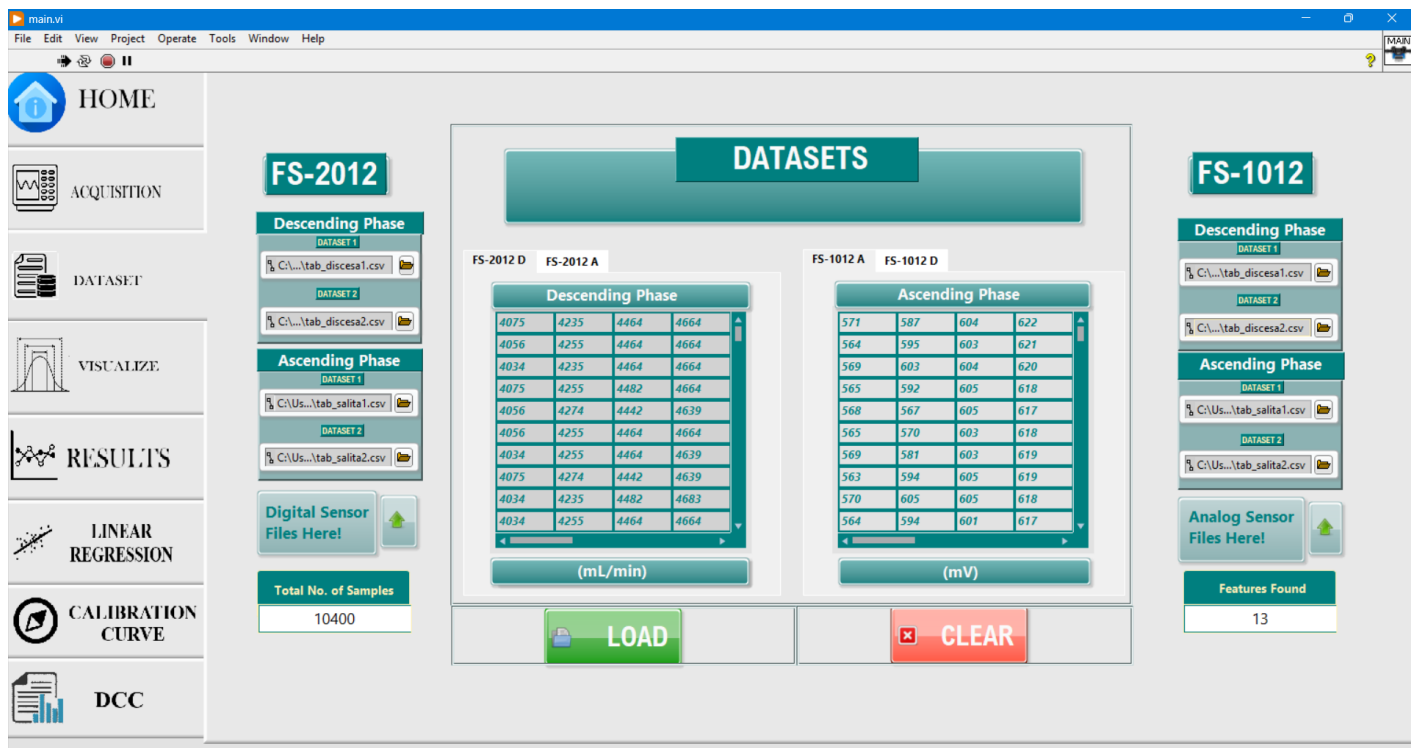

Figure 21: Dataset Tab
Step 8) Select the **DATASET** tab. Locate the *four squared boxes*, each containing two *file path* 📁 controls, as illustrated in Figure 21. As indicated by their label, customize each file path to the location of the acquisition datasets. Then, locate the **LOAD** button. Press to load the dataset into the tables that lie in the centre of the page.